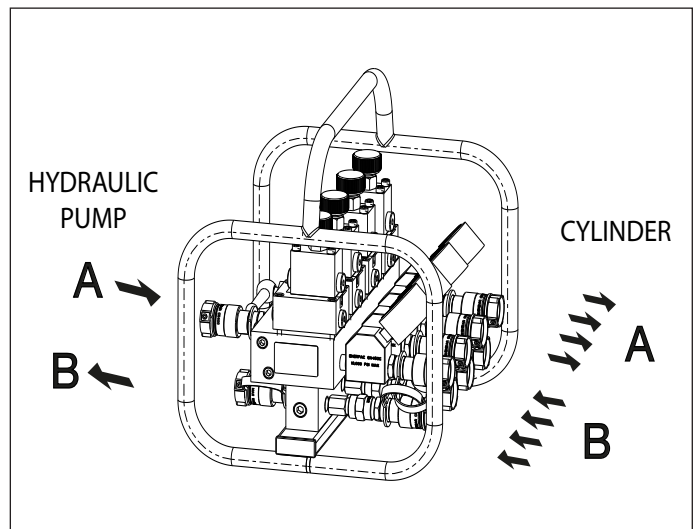

Figure 3, Connections Scheme for SFM42 Manifold
Refer to Figure 3 for references.
- Advance the cylinder: Select in the rotary knob of each flow control valve the desired flow per outlet. Set the relief valve on the main hydraulic pump 1,500 - 2,900 psi [100 - 200 bar] higher than the working pressure of the cylinders. Operate the hydraulic pump and directional valve so that oil flow is directed at a controlled rate from the hydraulic pump to the Split Flow Manifold inlet "P". Be sure the lowering valve is manually closed clockwise prior to operation. Oil flow will be directed from outlet "A" to the advance port of the cylinder to extend the plunger (see Figure 3). Oil flow will return to tank through port "B".